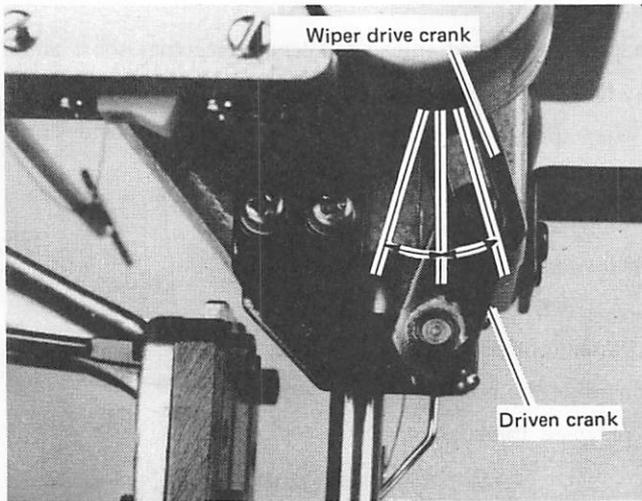

Fig. 10.19
- The wiper drive crank should be fixed to the rotary solenoid shaft so that it can swing evenly to the left and the right, as shown in Fig. 10.19.
- Make sure the drive crank can rotate through its entire movable range when the rotary solenoid is turned by hand with the drive crank depressed backward in the direction perpendicular to the illustration of Fig. 10.19.